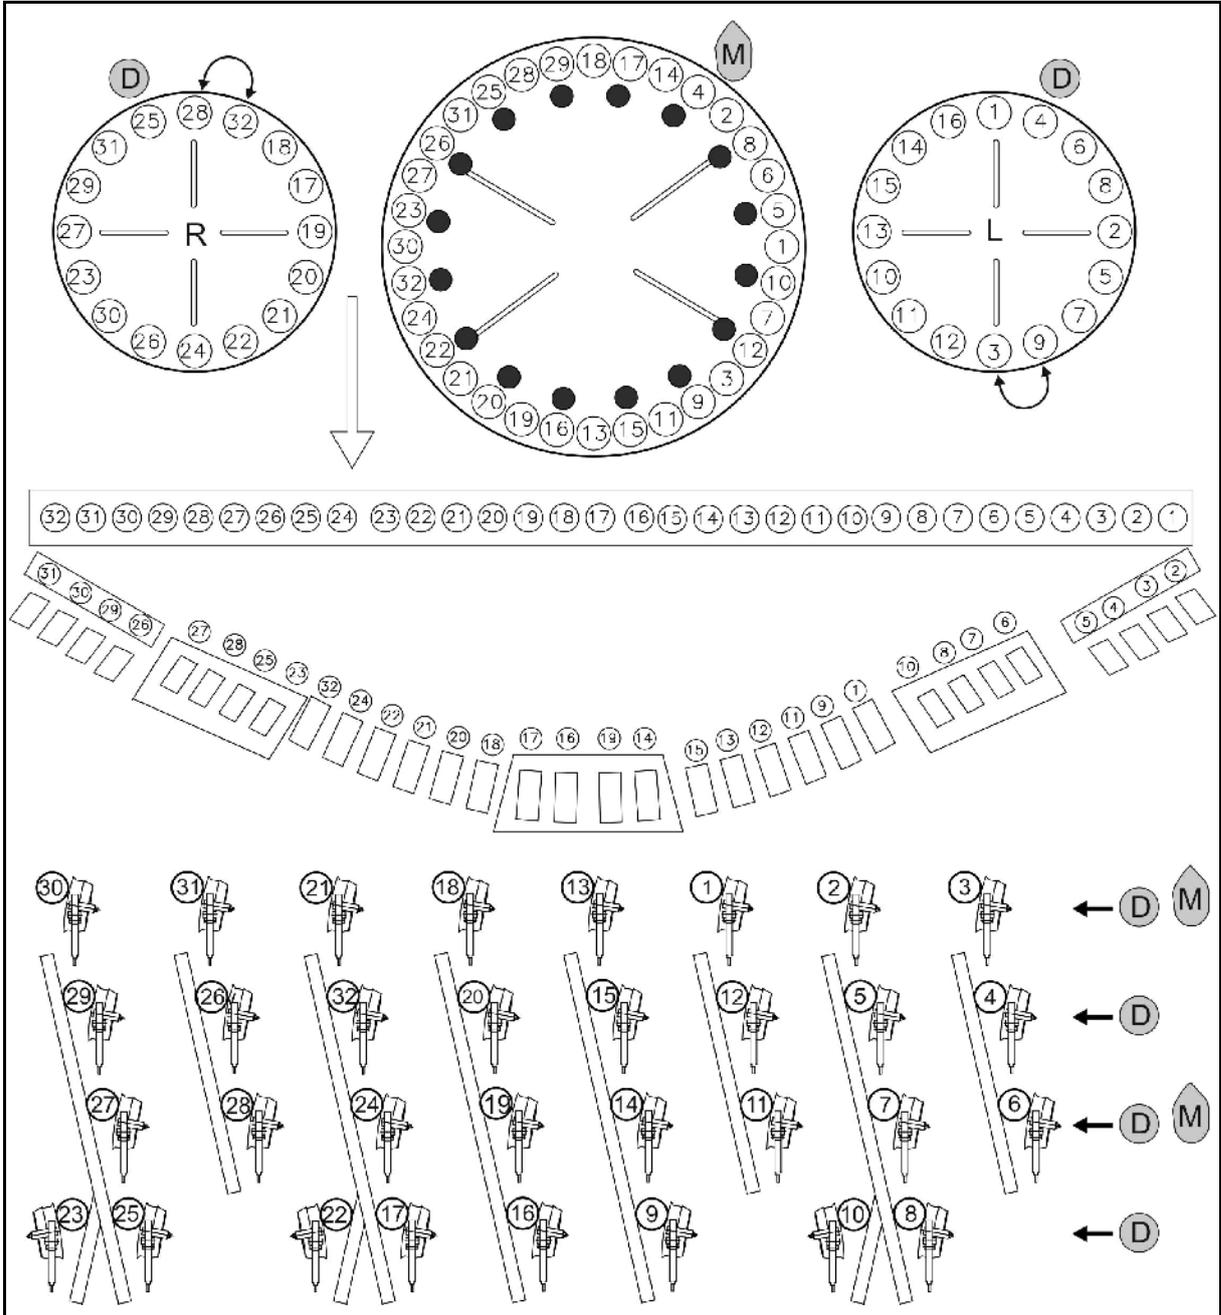

Fig. 51
- Maize M: Install the sealing plugs according to Fig. 51.